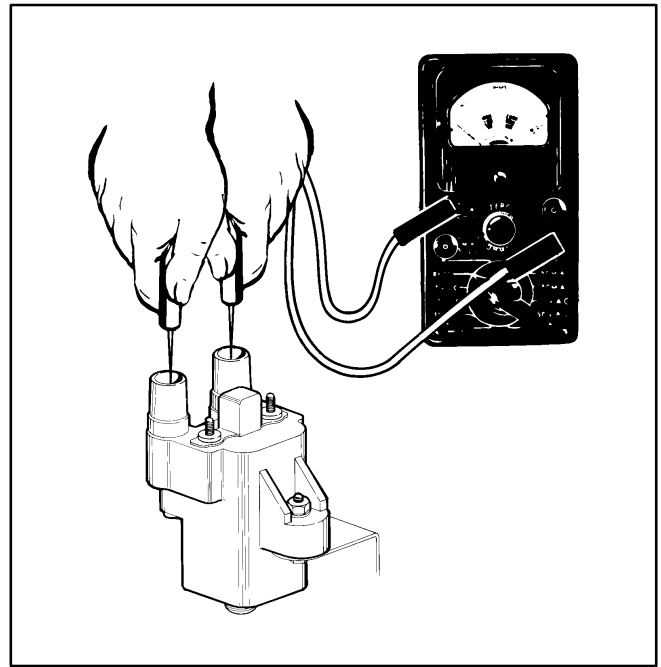

FIGURE 6-6. TESTING THE IGNITION COIL
6. Measure secondary coil resistance (across the spark plug cable terminals). Replace the ignition coil if secondary resistance is not between 14,500 and 19,800 ohms. See Figure 6-6.